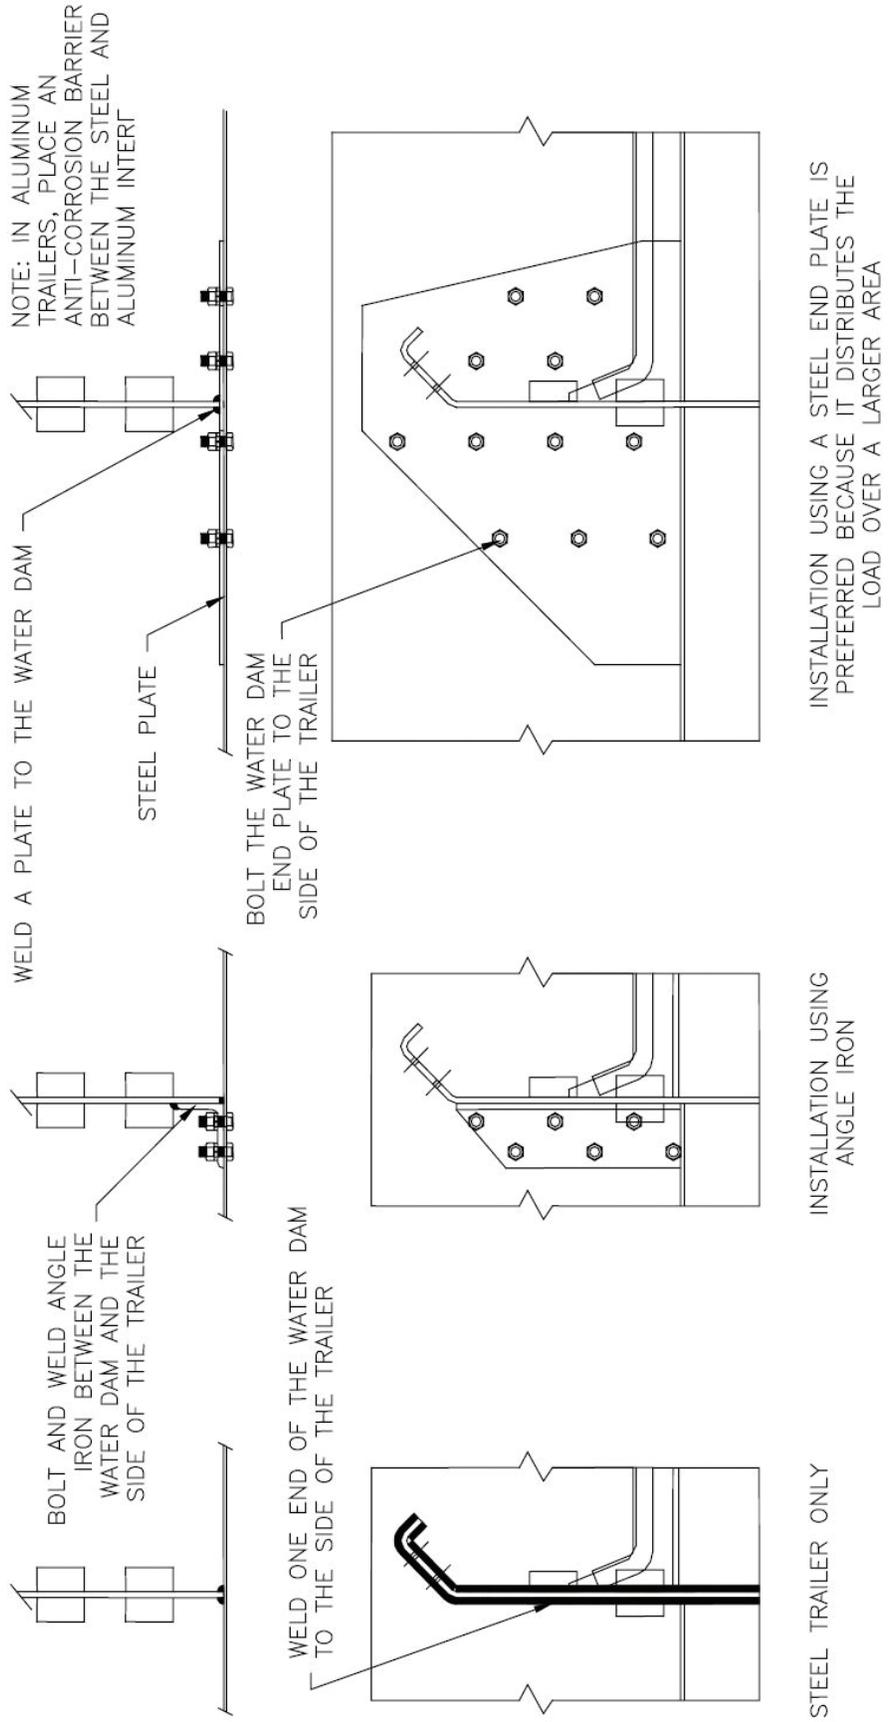

Figure 6
1. When attaching the water dam to the side of the trailer, it is recommended that you weld either angle iron or plate to the water dam and then bolt that to the side of the trailer. (See Figure 6). The stiffness between the walls and the dam are given a little room to work in comparison to a rigid joint formed if welded.